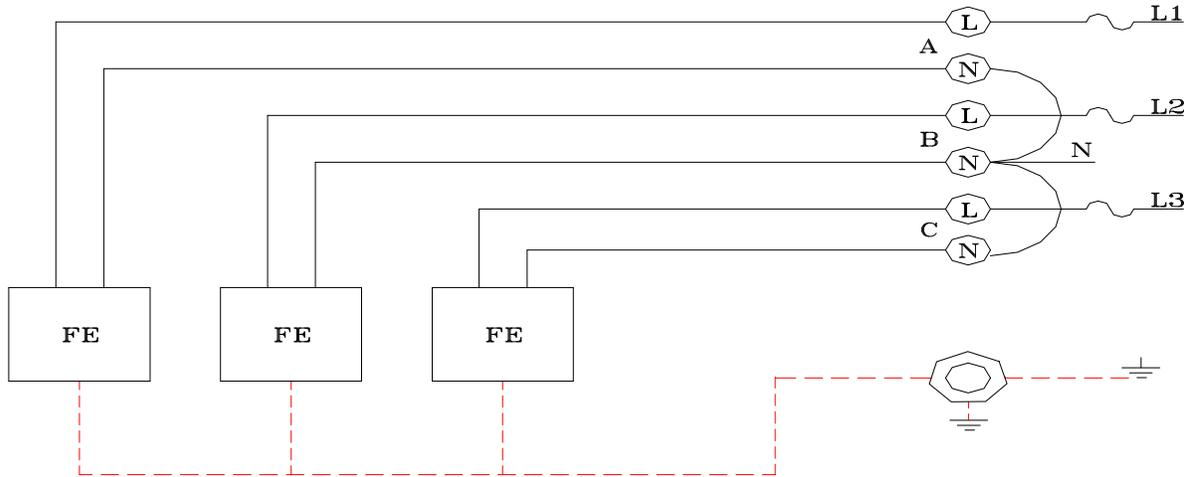

Figure 5. Three-Phase (Y) Configuration L1, L2, L3, N 120/208V Mains
The three-phase (Y) configuration can be applied to FE6K-XE and FE6K-NE power shelf units only, as shown in Figure 5.
Connection to the mains should be done strictly according to Figure 5. Wrong connection at the input may damage the FE power modules. An external fuse needs to be installed into each line.